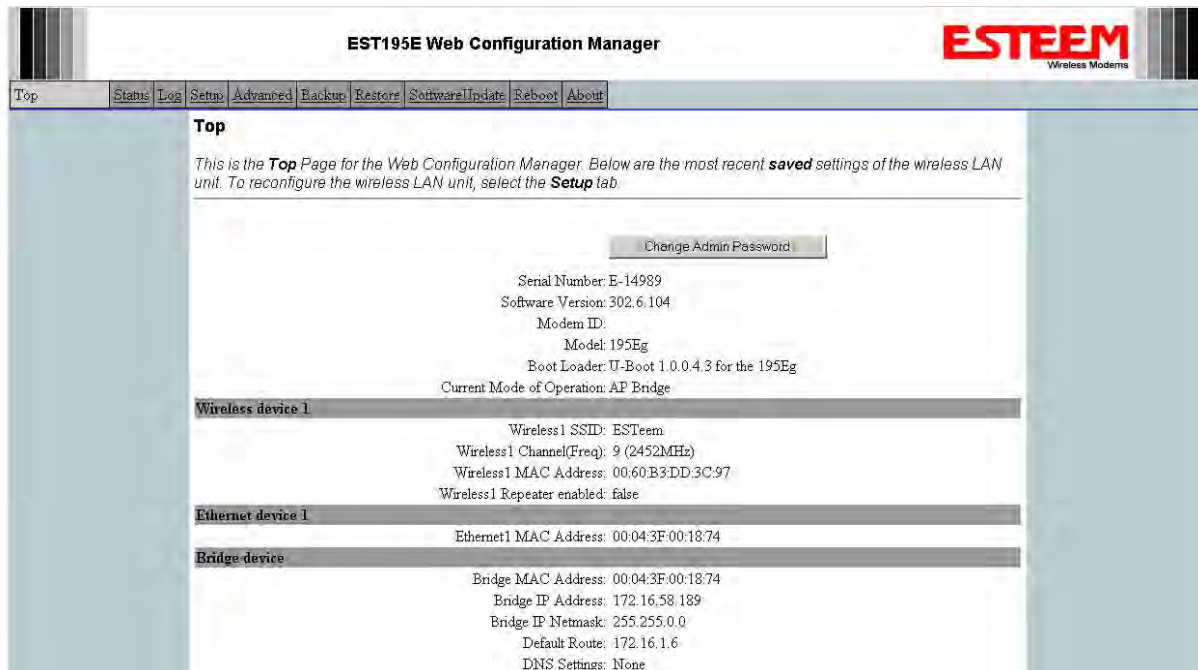

Figure 2: Top Menu Screen
5. After Log-in the next screen displayed will be the Model 210 Top Menu page (Figure 2). This example screen shows the Top Menu screen.
The Top Menu will be the default web page for the Model 210 Web Configuration Manager (Figure 2). This section will display the current configuration summary for the Model 210 and allow changing of the default password. This page will also display the Modem ID field that can be used to easily identify the 210 you are programming. This Modem ID field can be set to any text combination for example, location name, GPS coordinates or addresses.